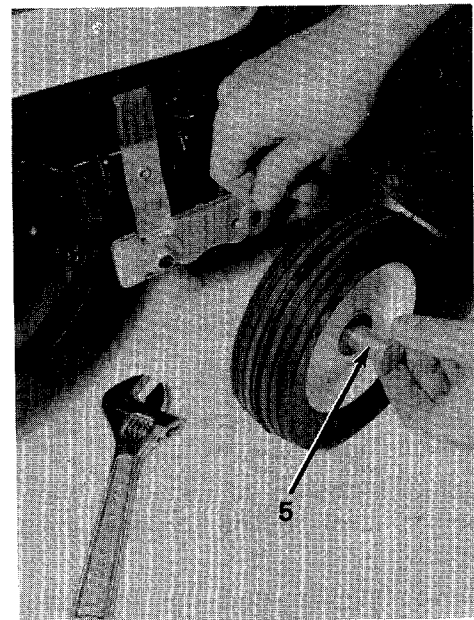

Figure 12.
5. **Deck Wheel Bearings (4).** Remove the axle bolt and lubricate with multi-purpose automotive grease once a season or after every 25 hours of operation. (See figure 12.)